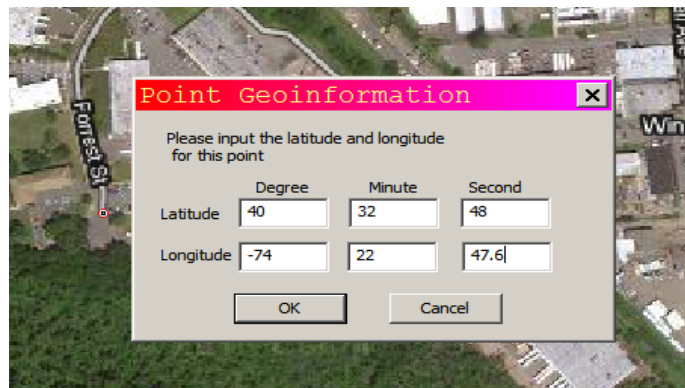

Figure 3. Entry of Point 1 Coordinates from Table 1
10. After the sixth point is entered in the same manner, the program will accept the points (or ask for more points of reference) with accompanying information on overall accuracy as seen in Figure 3. Note also the Green dot (replacing the corresponding Red dot in Figure 1) indicating that the base map is now geo-coded. The map accuracy is now 0.19 Seconds, corresponding approximately to 19 feet.⁵